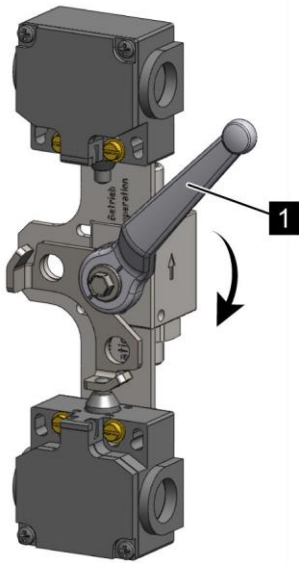

Fig. 176: Checking blocking device (optionally with 1 or 2 limit switches)
2. ➤ Check the ball valve (Fig. 176/1) for ease of movement.
3. ➤ Switch the ball valve (Fig. 176/1) to "blocked" position (Fig. 176/arrow).